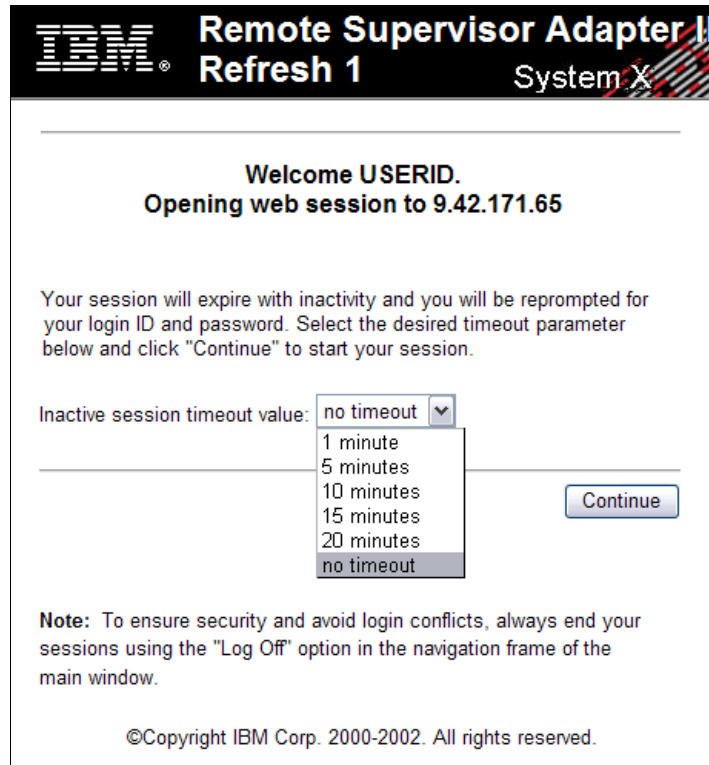

Figure 6-16 RSA II Web interface Welcome window.
2. Set the session time-out values as shown in Figure 6-16 on page 323.
installation of an operating system or patches, you may require remote media to connect a CD-ROM or diskette to the server. The RSA II offers the ability to make available a local diskette, CD-ROM, or image to a remote server and have that server treat the devices as though they were a local USB-attached device. See Figure 6-16 on page 323.